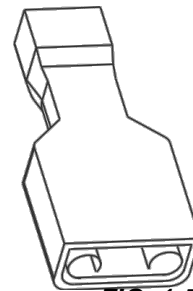

FIG. 1-5
5. Install a female terminal to the end and connect red lube wire #250 to the female terminal. **See Fig. 1-5.**
- g. Install a male terminal to the end of the remaining length of wire #20. **See Fig. 1-5.**